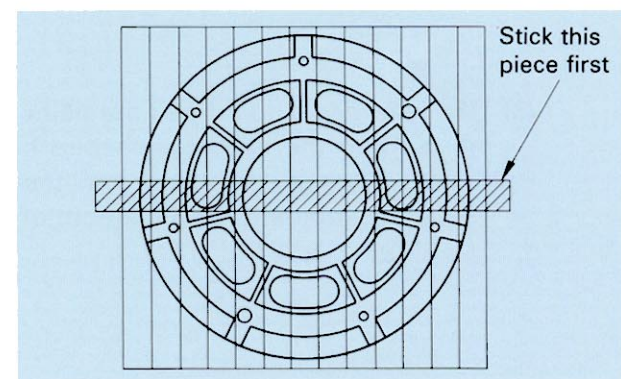

Fig. 5
- (1) Remove the bearing plate and place it with the fixed surface upward.
- (2) Stick mending tape to the bearing plate contact surface.
- b) Put the second and following pieces of mending tape at right angles to the first piece and parallel to each other with no gap between them along the edges.(See Fig. 5.)
- (3) Peel off the mending tape and stick it on a paper.